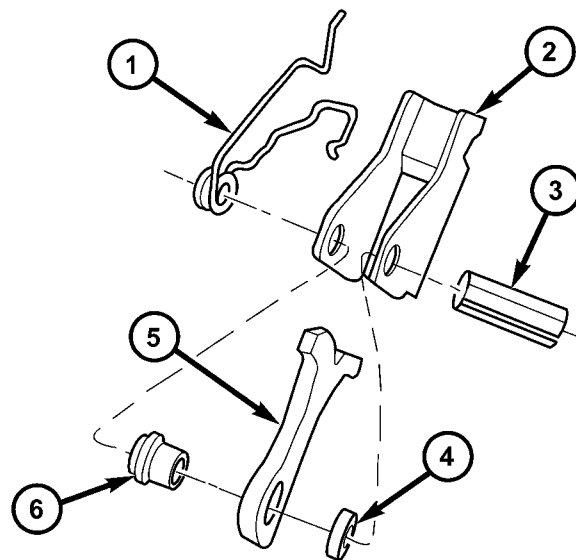

Fig. 78 Guide Bracket Disassembled
(61) Inspect guide bracket components for excessive wear and replace if necessary (Fig. 78).